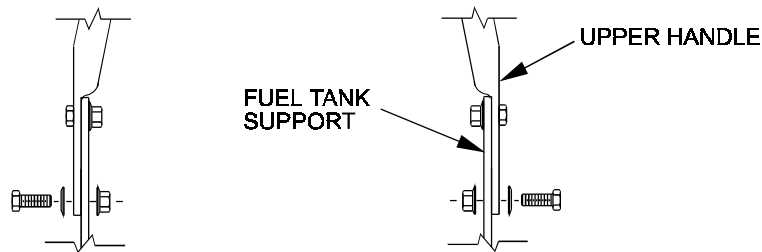

FIG. 1
- 3.7 Position the lower end of the handle assembly on the outside of the upper rear section of the fuel tank & handle support. Install four 3/8-16 x 1" bolts (with four spring disk washers against the head of each bolt) from the outside in. Secure using four 3/8" whizlock nuts on the inside of each handle support and tighten until the spring disk washers are flat (See Figure 1).